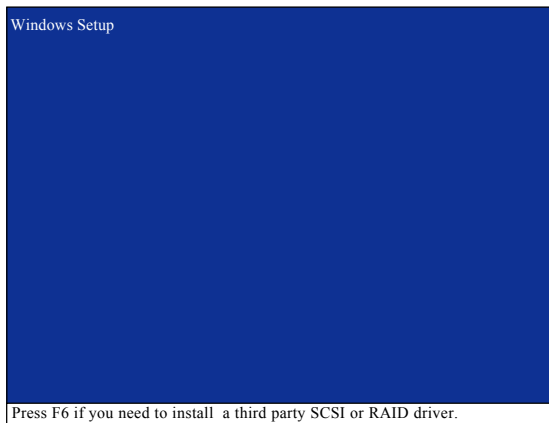

Figure 13
Step 1: Restart your system to boot from the Windows 2000/XP Setup disk and press F6 as soon as you see the "Press F6 if you need to install a third party SCSI or RAID driver" message (Figure 13). After pressing F6, there will be a few moments of some files being loaded before you see the next screen.